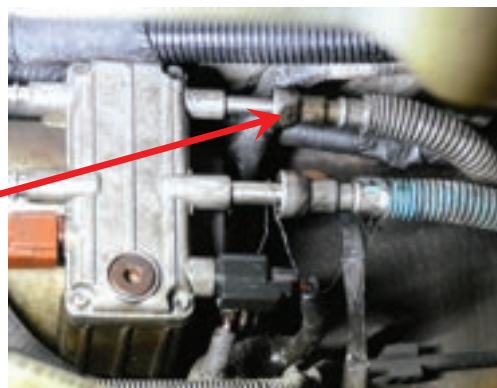

Figure 22
- 6-2. Remove the engine fuel return line quick connect fitting from the male connector located at the top front of the OE frame mounted fuel pump (figure 22). You will need the disconnect tool for this one.